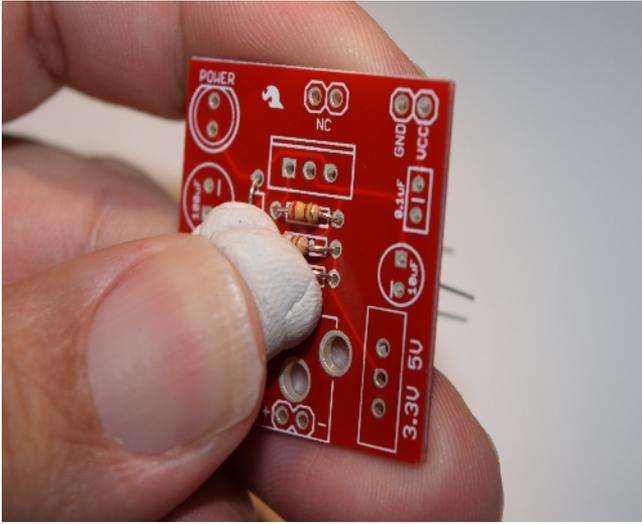
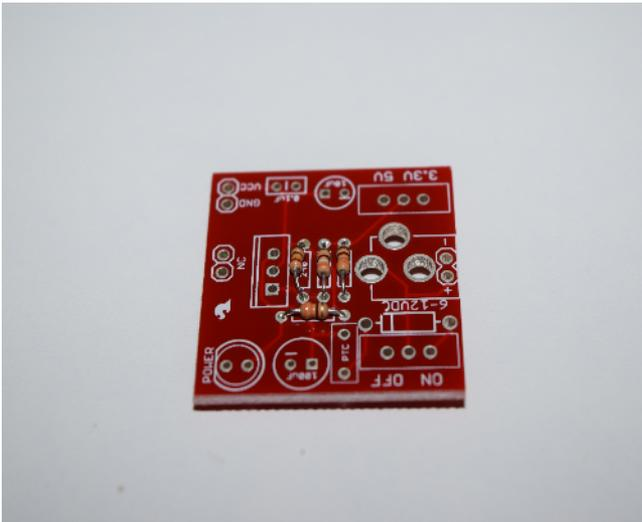

Figure 5-12. *Holding the resistors in place*
Figure 5-13. *Soldered resistors*
1. The silk screen has the values of the resistors on the PCB. Place them into the correct positions. If you are not sure of the resistors' values, use a multimeter to check, or look them up with a resistor value table. Use blue-tack (poster putty) to hold them in place (Figure 5-12). Turn it over and solder. Cut off the leads when you have finished soldering them with a pair of side cutters (Figure 5-13).